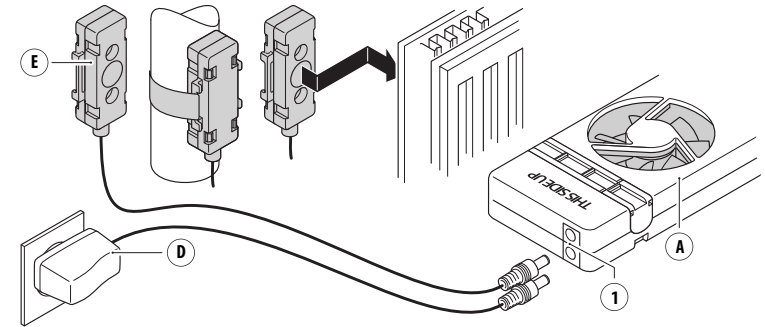

Fig. 10 – Connecting the power adapter (D) and temperature sensor (E).
1. Connect the cable of the **Automatic Sensor** (E) to one of the **female connectors** (1) on the **SpeedComfort** (A).
Attach the **Automatic Sensor** (E) using the magnets to the back of the radiator, near the supply pipe, or directly onto the *supply pipe* itself (see Fig. 10).
2. When positioning the **Automatic Sensor** (E) on a convector:
3. Connect the **power adapter** (D) to the other female connector (1) and plug the adapter into the mains socket (see Fig. 10).